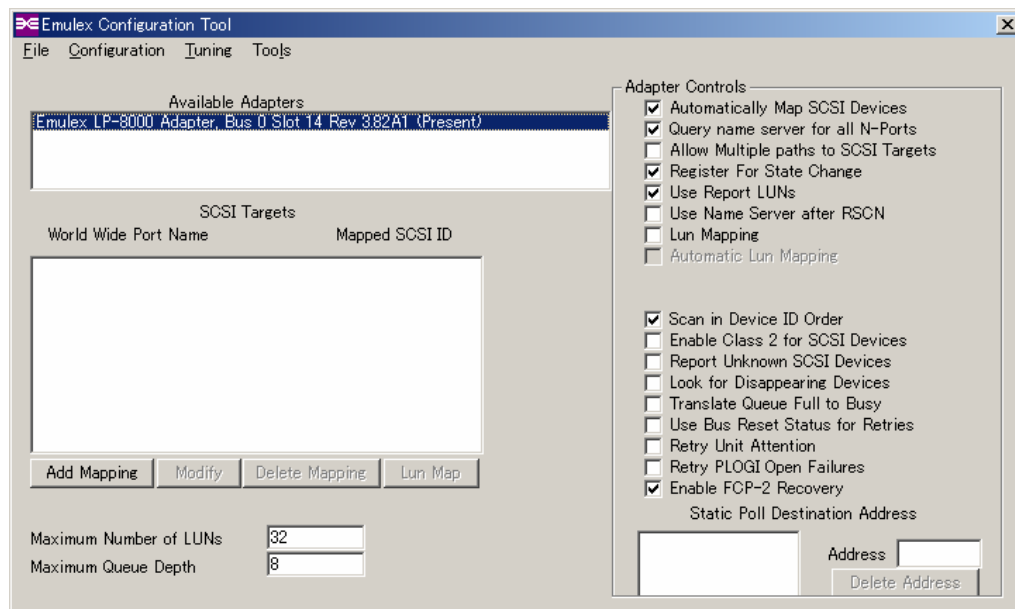

Figure 2.5 Emulex Configuration Tool Panel
- a) Queue Depth (Maximum Queue Depth) is set using Emulex Configuration Tool as shown in Figure 2.5. Queue depth requirements are listed in Table 2.4.